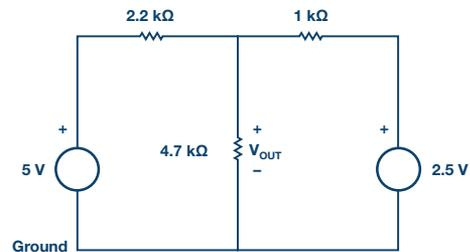

Figure 3. Circuit with two voltage sources.
- ▶ 2. The superposition theorem states that the response of a linear circuit with multiple independent sources, such as in Figure 3, can be obtained by adding the individual responses caused by the individual sources acting alone.
- ▶ a) Construct the circuit of Figure 3. Measure and record the voltage across the 4.7 k $\Omega$  resistor.
- ▶ c) Calculate the total response  $V_{OUT}$  for the circuit of Figure 3 by adding the responses from Step 1a and Step 2b. Compare your calculated result to what you measured in Step 2a. Explain any differences.